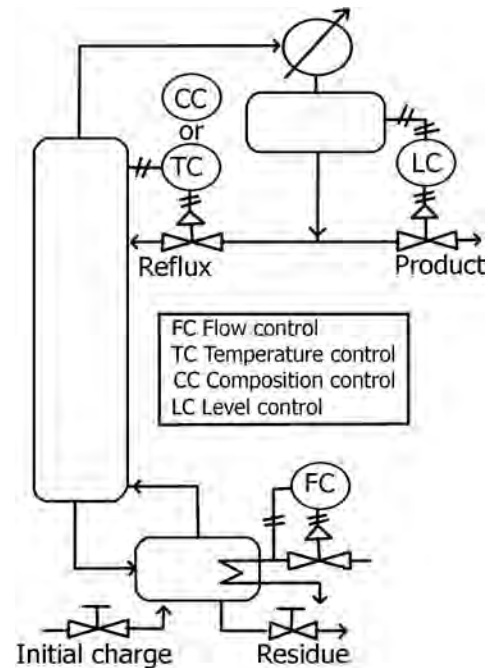

FIGURE 17.22 Instrumentation for constant vaporization rate and constant overhead composition in batch distillation.
- Instrumentation for constant vaporization rate and constant overhead composition is illustrated in Figure 17.22.